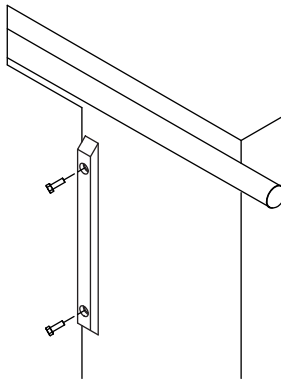

Figure 12
- 1) Figure 12.** Position roll pipe deflectors to prevent roll pipe from hitting side of trailer when tarp is in use. Drill pilot holes and secure each deflector with 3/8" x 1" HWH Type F bolts.